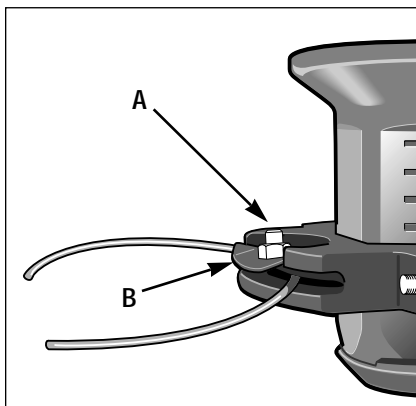

Figure 5-11: Slide a new section of trimmer line underneath the clamp plate (B), then retighten the nut (A) securely to hold the trimmer line in place.
2. Use a 1/2" open-end wrench to loosen the nut (A, Figure 5-11) on one
5. While holding the clamp plate (B, Figure 5-11) in position on the line (be sure prongs on clamp plate are in contact with the line), retighten the nut (A) to 75 in/lbs. Do not overtighten.